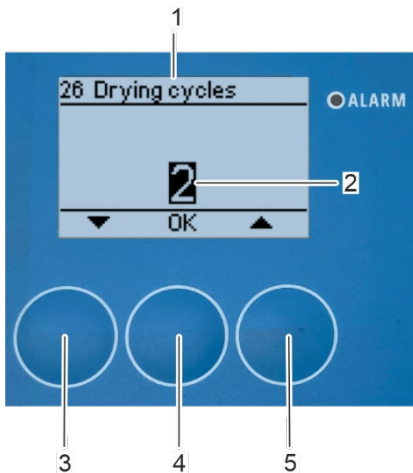

Fig. 136: Set drying cycles
⇒ The "26 Drying cycles" submenu appears on the display (Fig. 136/1).
3. Set the drying cycles (Fig. 136/2) with the arrow keys [up] (Fig. 136/5) and [down] (Fig. 136/3).
4. Confirm the setting with [OK] (Fig. 136/4).